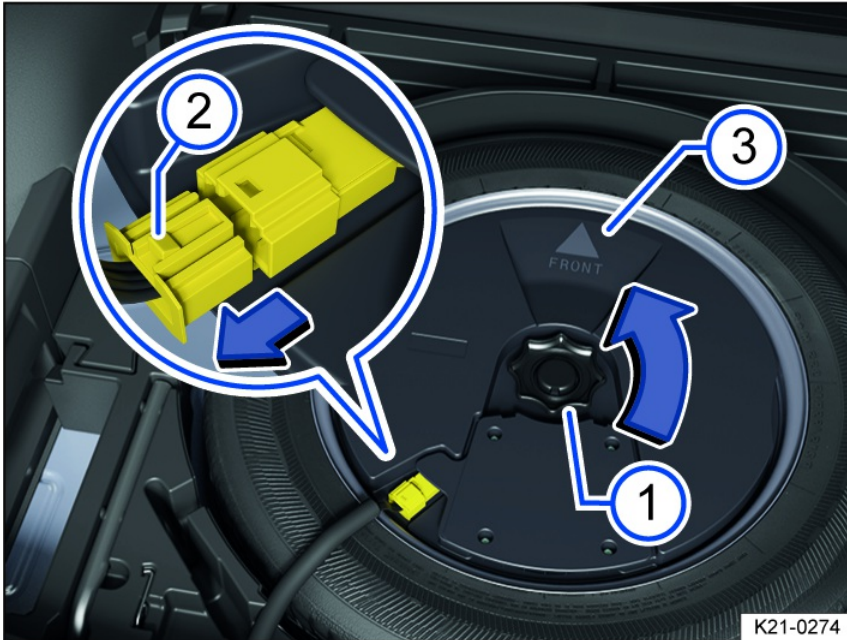

Fig. 214 In the luggage compartment: removing the subwoofer (version 2).
3. Unscrew the handwheel fig. 214 in the direction of the arrow.
4. To release the connector, press the locking mechanism on the end of the connector fig. 214.
1. Place the subwoofer carefully in the rim well. The point of the "FRONT" fig. 214 arrow symbol on the subwoofer must face forward
2. Connect the connector until the lock fig. 214 latches into place.
3. Turn the handwheel fig. 214 on the threaded pin in the opposite direction to the arrow until the subwoofer is securely fastened.